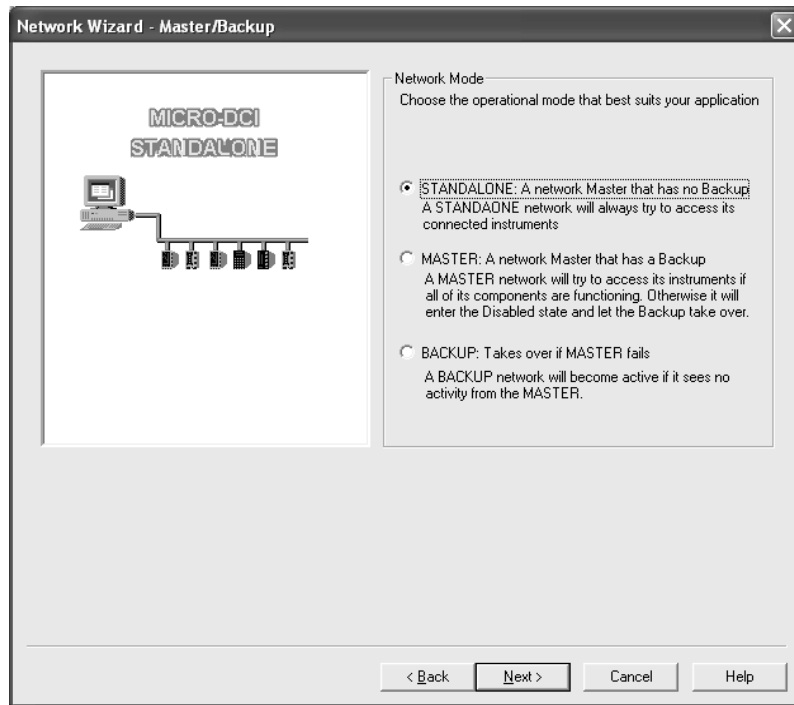

Figure 3-3. Network Mode Selection Window
- Click **Next**. The *Network Mode* selection window (Figure 3-3) is displayed.